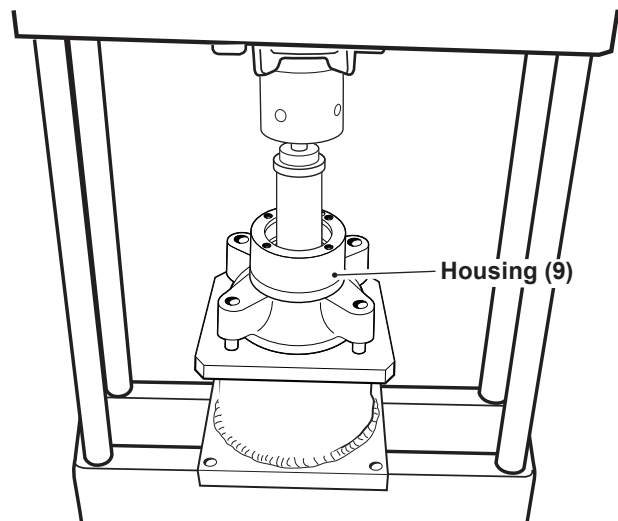

Figure 14, Needle Bearing
1. Remove castellated nut (1), woodruff key (6), plastic plugs (8), retaining ring (2), seven screws (22), seven washers (23), end cover (19), gearwheel set (17) with O-rings (16, 18), cardan shaft (15), distributor plate (14), O-ring (13), output shaft (7) and the shaft seal. See pages 4 - 9.
2. Remove the needle bearing (12) with a pressing tool. See figure 14.